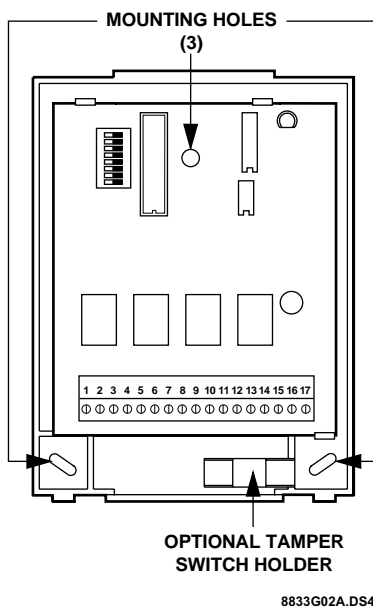

Figure 3. Mounting Holes
- Place the back plate inside the cabinet at the lower-right corner and mark the mounting holes (Figure 3).
- Place the back plate on the wall and mark the mounting holes (Figure 3).
The tamper switch holder is located at the lower-right side of the back plate as shown in Figure 3. The plastic cover holds the magnet.